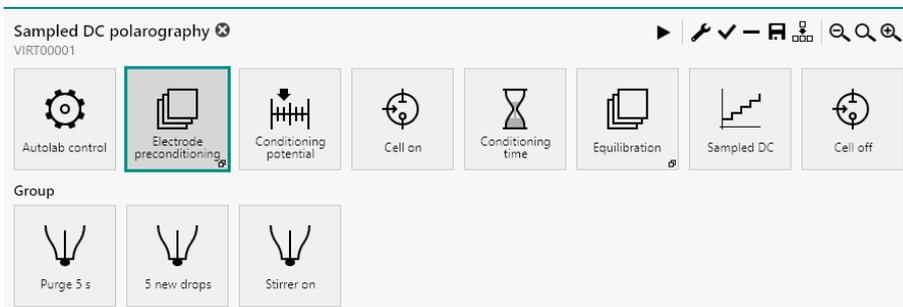

Figure 625 The Electrode preconditioning group
- **Electrode preconditioning:** this command group is used to create new mercury drops at the beginning of the procedure. The commands in this group are used to purge the solution for the specified duration, create the specified number of new drops and switch the stirrer on (see figure 625, page 531).